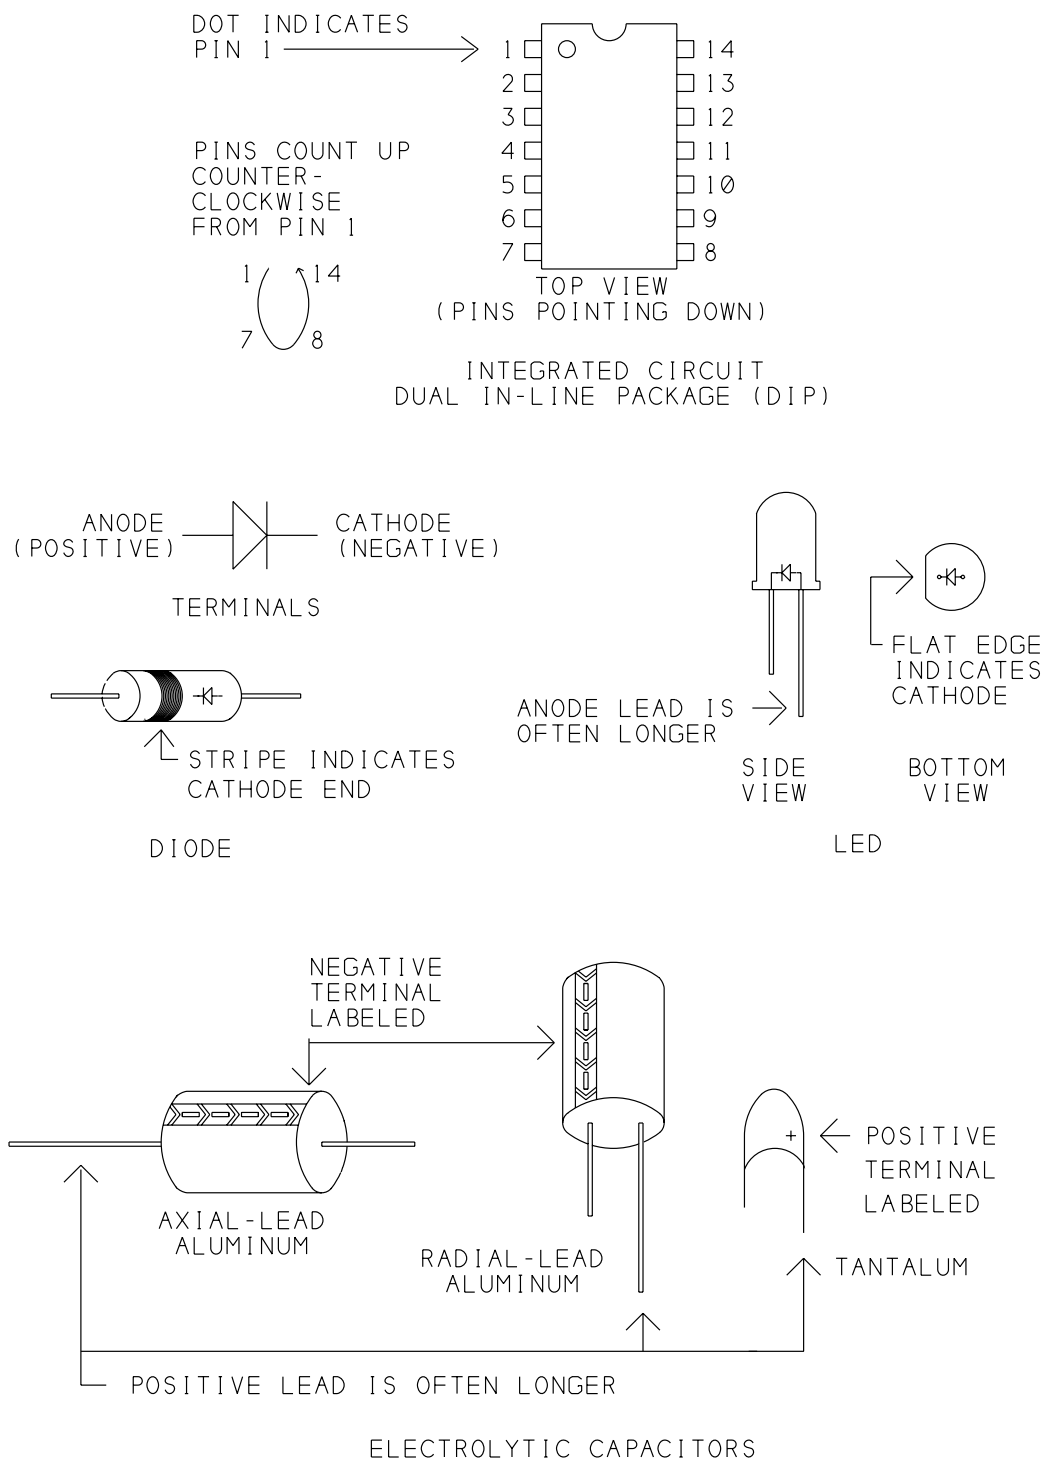

Figure 3-4. How to determine the correct orientation for ICs, diodes, LEDs, and electrolytic capacitors.
- When you wire the following components, correct orientation is required: C1, C4-C8, D1, LED1, and U1-U7. Figure 3-4 shows common polarity indicators for these components. Notice that C7's positive terminal connects to ground, and C6's negative terminal connects to +5V, since these capacitors connect to the MAX232's -10V and +10V outputs.